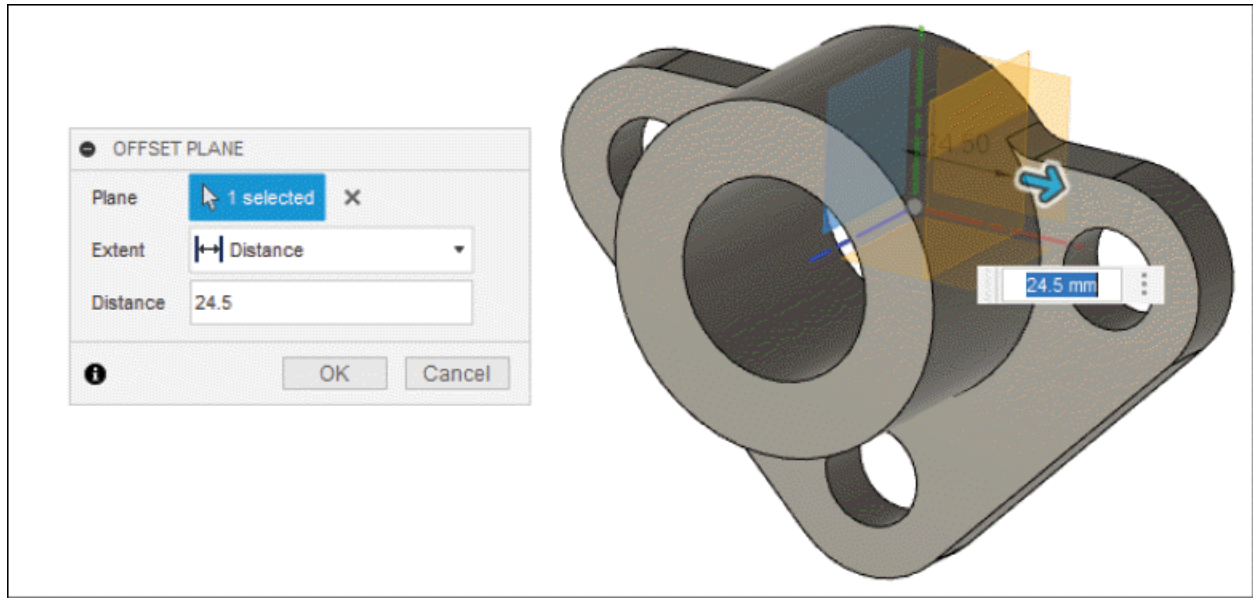

Figure-47. Creating the offset plane
- Click in the **Distance** edit box of the dialog box and enter **24.5** as distance value; refer to Figure-47.